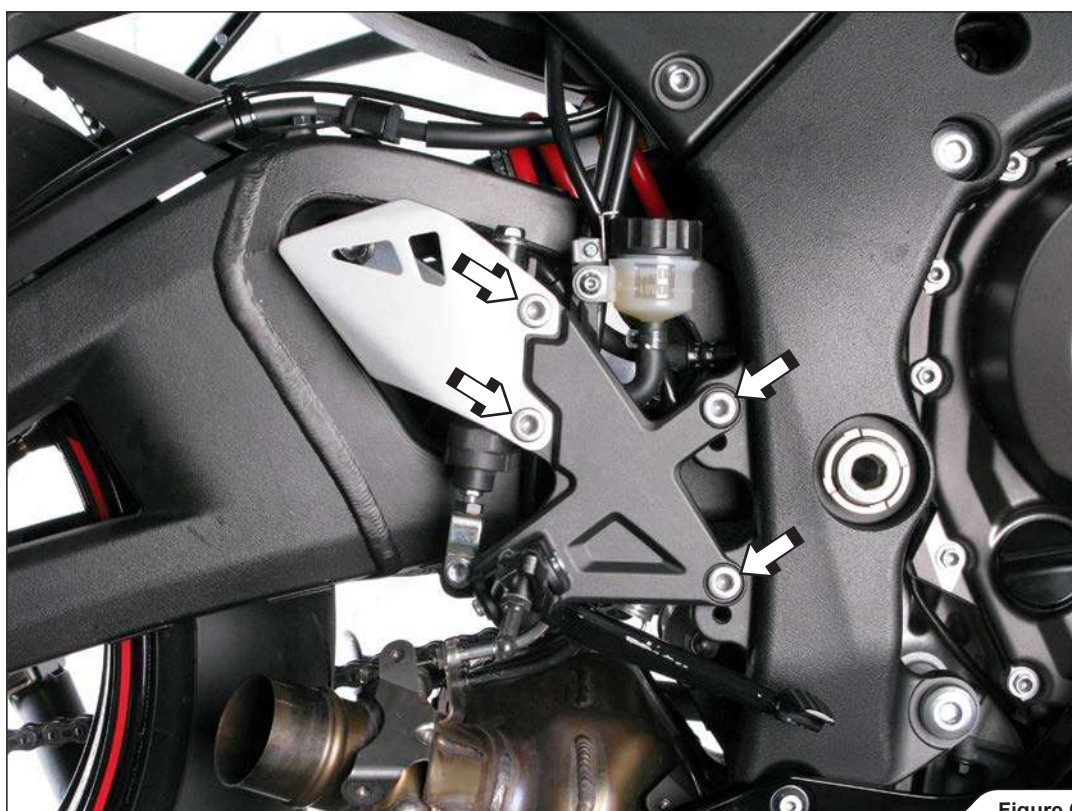

Figure 6
6. For optional link pipe only: unscrew the foot peg and foot guard, to release the exhaust valve cables (Figure 6).